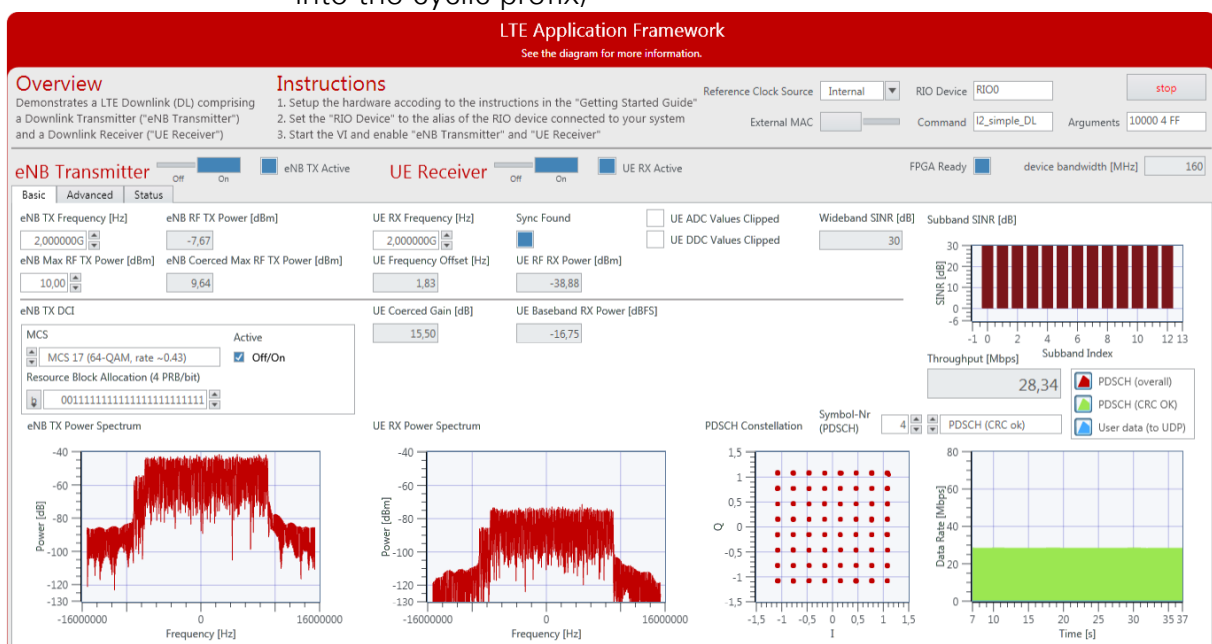
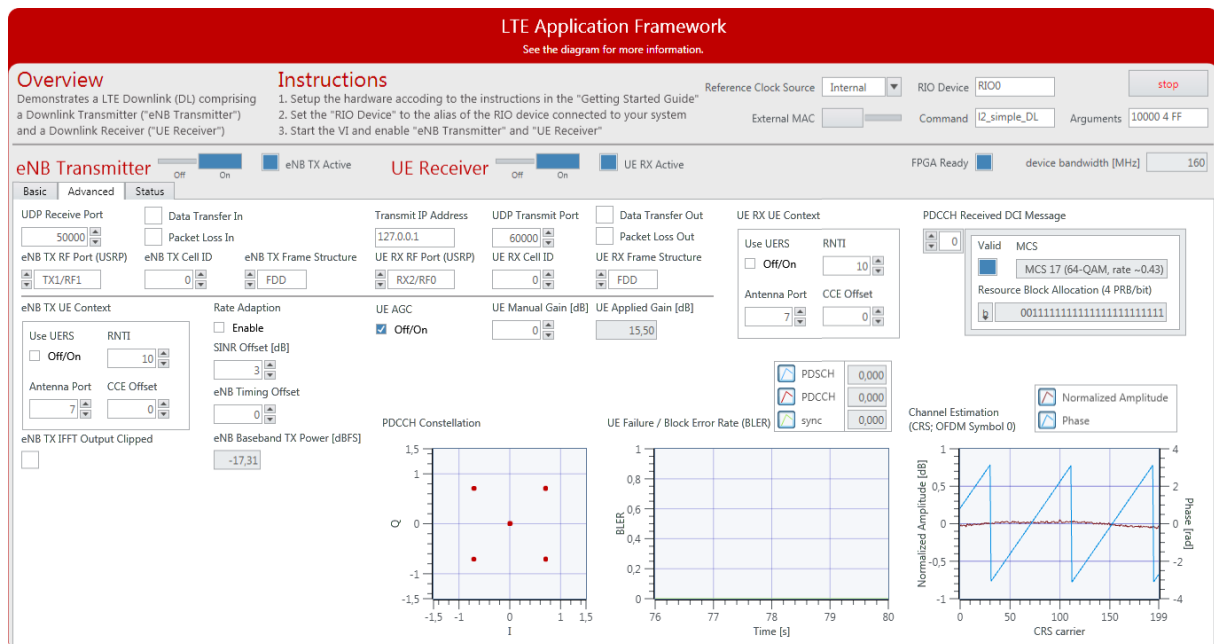

Figure 8 Front Panel of LTE Host DL.gvi / Basic Tab When Running Successfully
Figure 9 Front Panel of LTE Host DL.gvi / Advanced Tab When Running Successfully
If the system is running as expected, the downlink signal generated by the transmitter is correctly received and decoded by the receiver. In this case, the host panel should appear as shown in Figure 8 and Figure 9.
- Cabled setup: flat curve around 0 as shown in Figure 9
- Phase, cabled setup: saw tooth curve (straight line, wrapping two times) as shown in Figure 9 (indicating that FFT cuts slightly into the cyclic prefix)